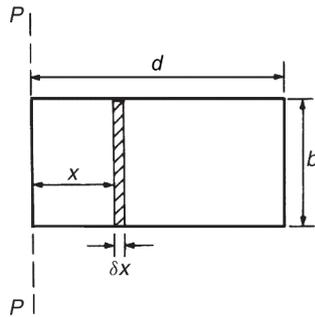

Figure 8.7
**For example**, the second moment of area of the rectangle shown in Figure 8.7 about axis  $PP$  is found by initially considering an elemental strip of width  $\delta x$ ,